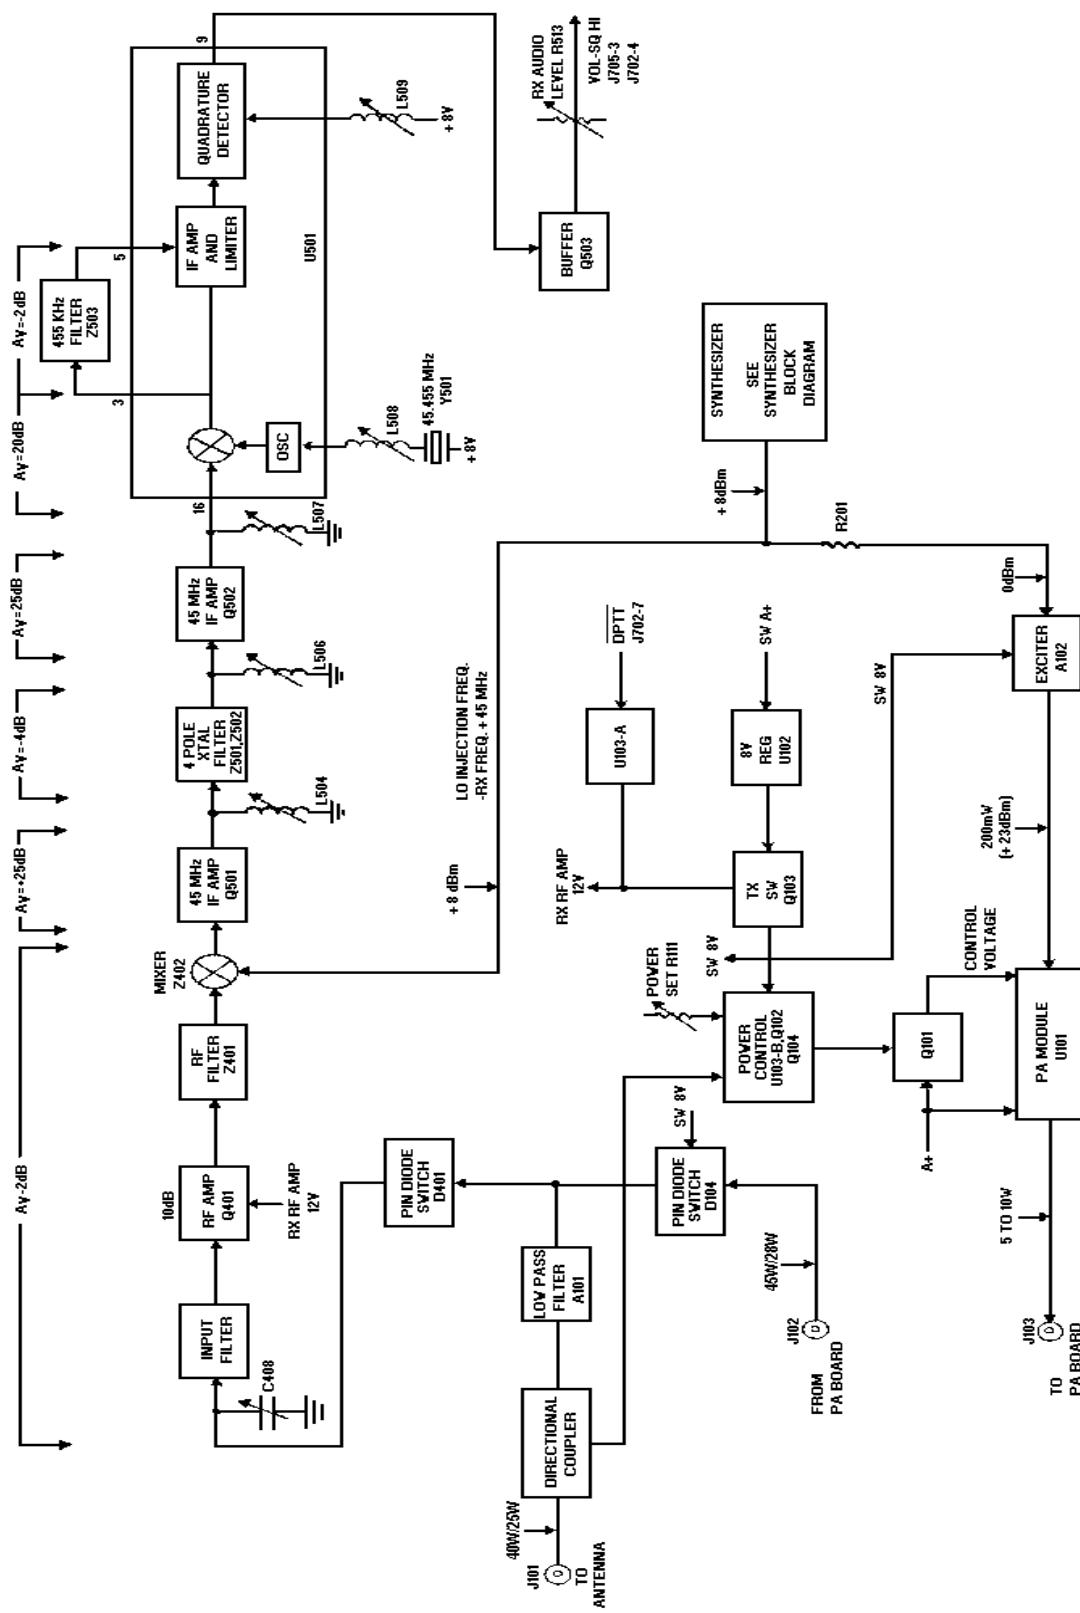
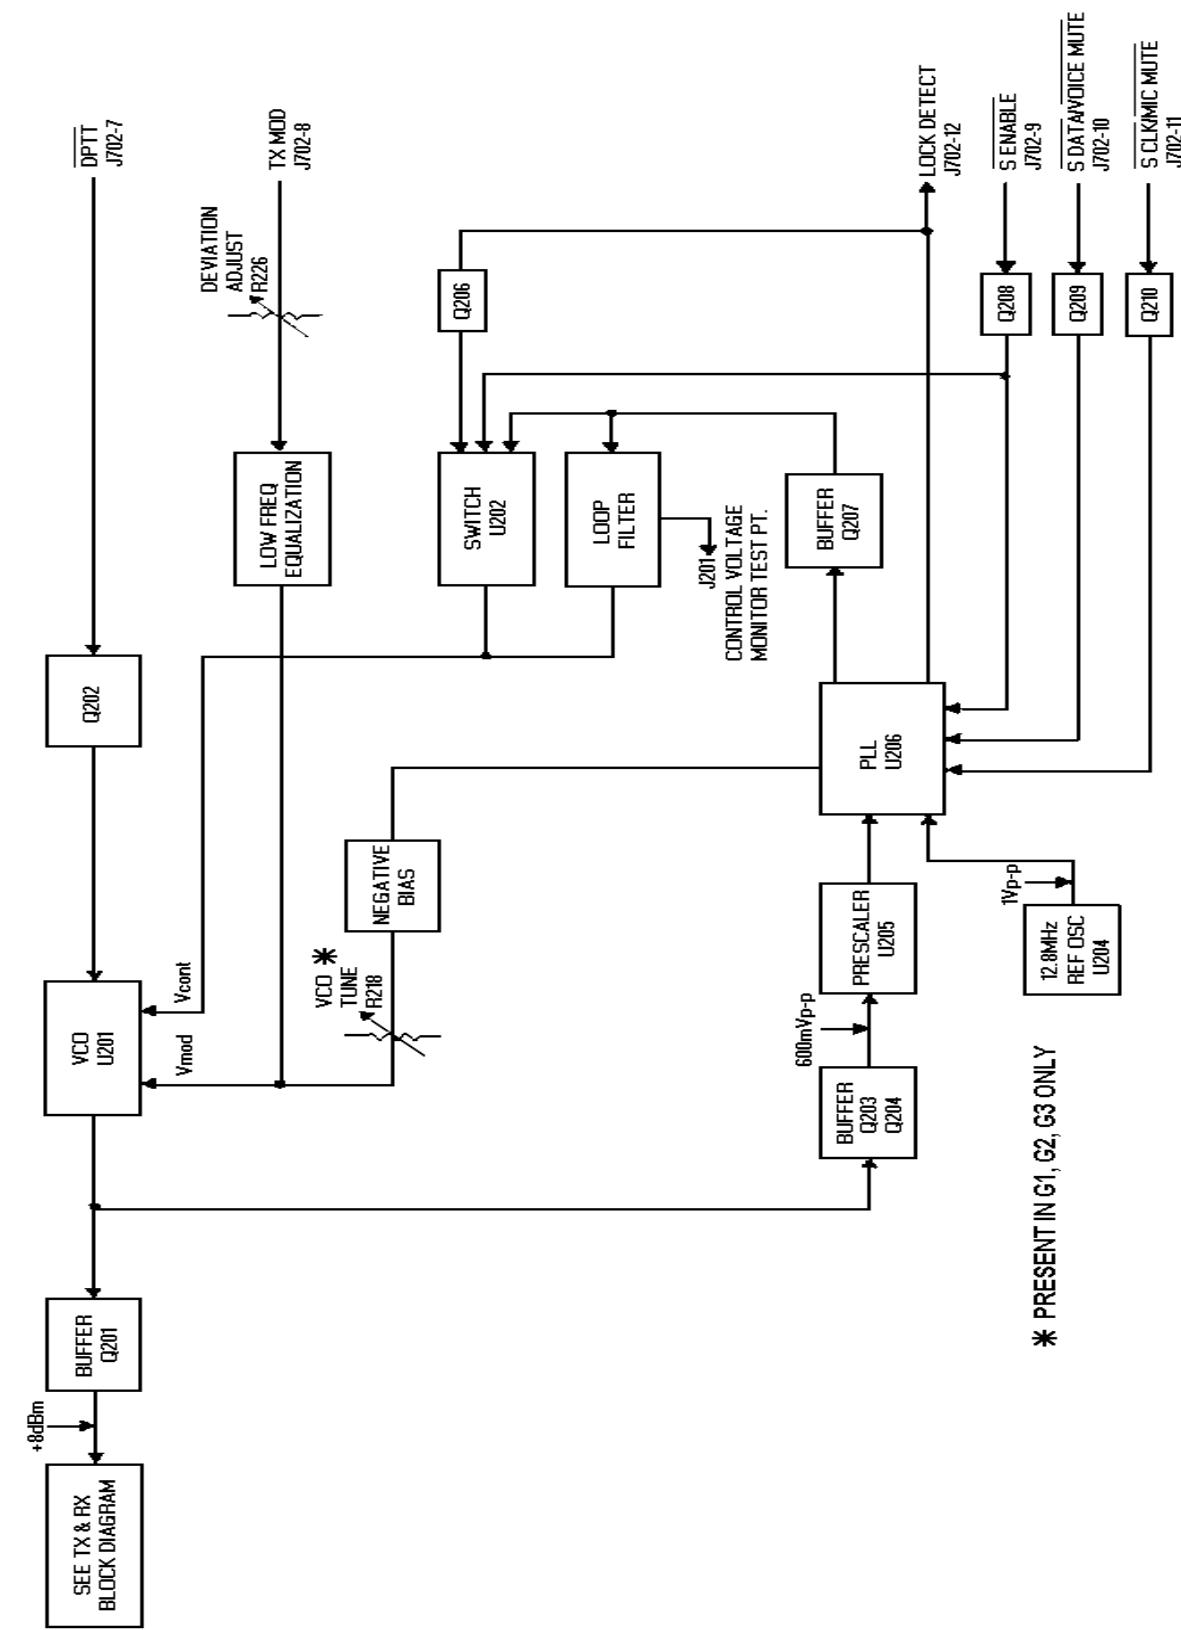

Figure 1 - TX And RX Block Diagram
Figure 2 - Frequency Synthesizer Block Diagram
The RF Board is mounted in the bottom of the frame assembly. Refer to the Combination Manual for the mechanical layout of the radio. Figure 1 provides a block diagram of the receive and transmit circuits. Figure 2 provides a block diagram of the synthesizer.
Figure 1 shows the synthesizer driving the receive mixer at +10 dBm and is attenuated by resistor R202 to +3 dBm for driving the exciter input. Exciter module A102 operates from a switched 8 volt supply. A different exciter module is required for each of the three band splits. No tuning is required. Both input and output ports operate at 50 ohms impedance. The exciter module provides typically 20 dB of gain and 200 mW of output power to drive the power amplifier module.
Most transmit circuit problems can be isolated by checking the TX power gains shown in Figure 1- RX and TX Block Diagram. The PA Board may be bypassed by placing a jumper cable between J103 and J102 on the RF Board. The PA module U101 is capable of producing 10 watt output
• Poor SINAD	<ol style="list-style-type: none"> <li>1. Consult Figure 1 - RX and TX Block Diagram for RX stage gains and troubleshoot. NOTE: Use a high impedance RF probe when measuring gain at TP401. A 50-ohm probe may be used if C415 is removed. DO NOT adjust Z401 or Z402 without sweep equipment or the 20 MHz sensitivity bandwidth will be sharply reduced.</li> <li>2. Input cable.</li> <li>3. PIN Diode switch is shorted.</li> </ol>